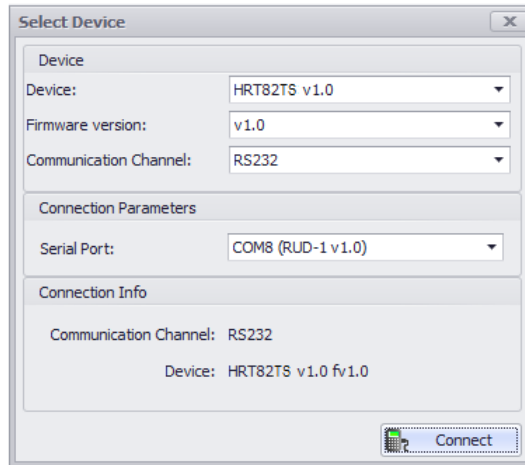

Fig. 6 Device select window in RogerVDM software
5. In the opened window select device, firmware version, communication channel and serial port with connected RUD-1 – see fig. 6